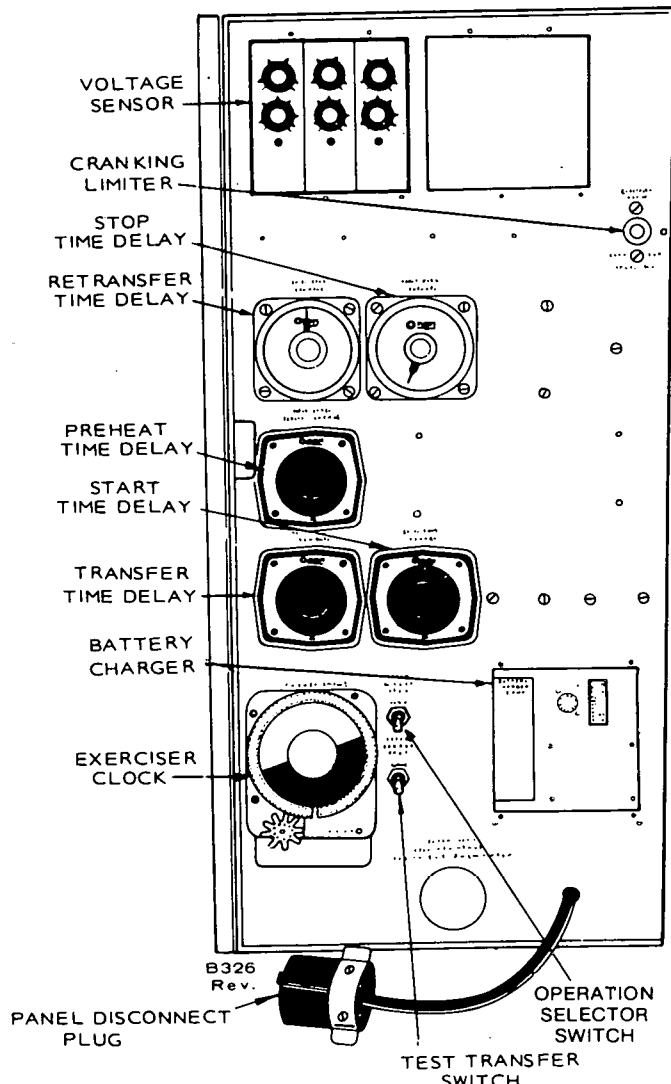

FIGURE 11. RELAY, THREE-WIRE, CONTROL ACCESSORY PANEL
The three-wire starting relay control is similar to the two-wire control (see the preceding description) except for the operation selector switch and the addition of a cranking limiter. If the application requires, a preheat time delay relay may also be included. See Figure 11.
Cranking Limiter: The cranking limiter in three-wire, relay controls is located in the upper right-hand corner of the control accessory panel as illustrated in Figure 11. The cranking limiter is an electrically operated thermal relay that protects the engine cranking circuit. The relay is energized when the start signal is sent and remains energized until the electric generating set starts. If the engine does not start in forty-five to ninety seconds, the heating element in the relay opens the starting circuit. It can be reset by allowing about one minute to cool, and then pushing the reset.
A typical control accessory panel for a three-wire, relay control is illustrated in Figure 11. The control accessory panel can be swung open to allow access to the transfer switch. Before opening the control accessory panel: (1) The operation selector switch must be moved to STOP, located on the control accessory panel, and (2) The control accessory panel disconnect plug must be removed (when used), removing AC line voltage from the control accessory panel.